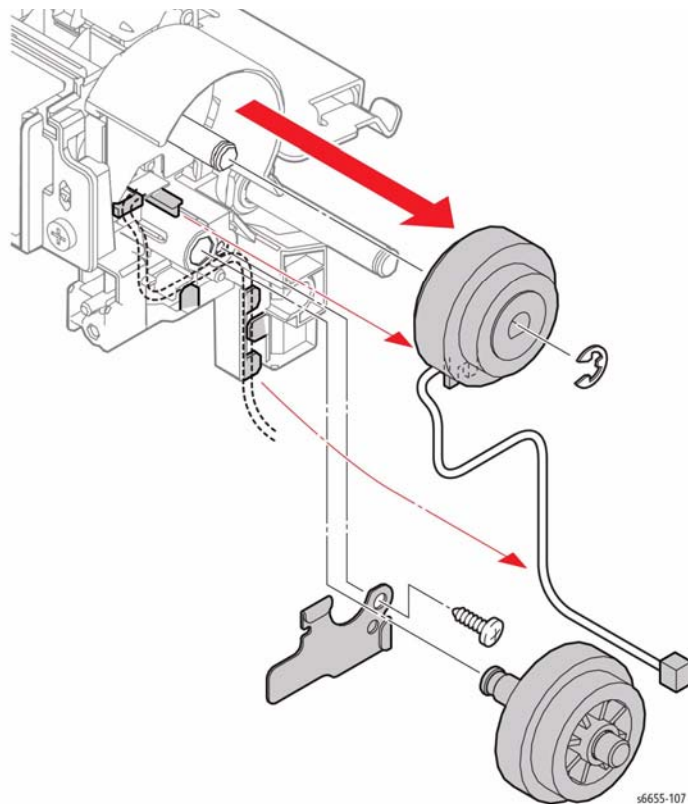

Figure 1 Remove the 550 Option Registration Clutch Assembly
6. Refer to Figure 1 to locate and remove the E-ring holding the 550 Option Registration Clutch Assembly, and then pull the clutch assembly off of the shaft.